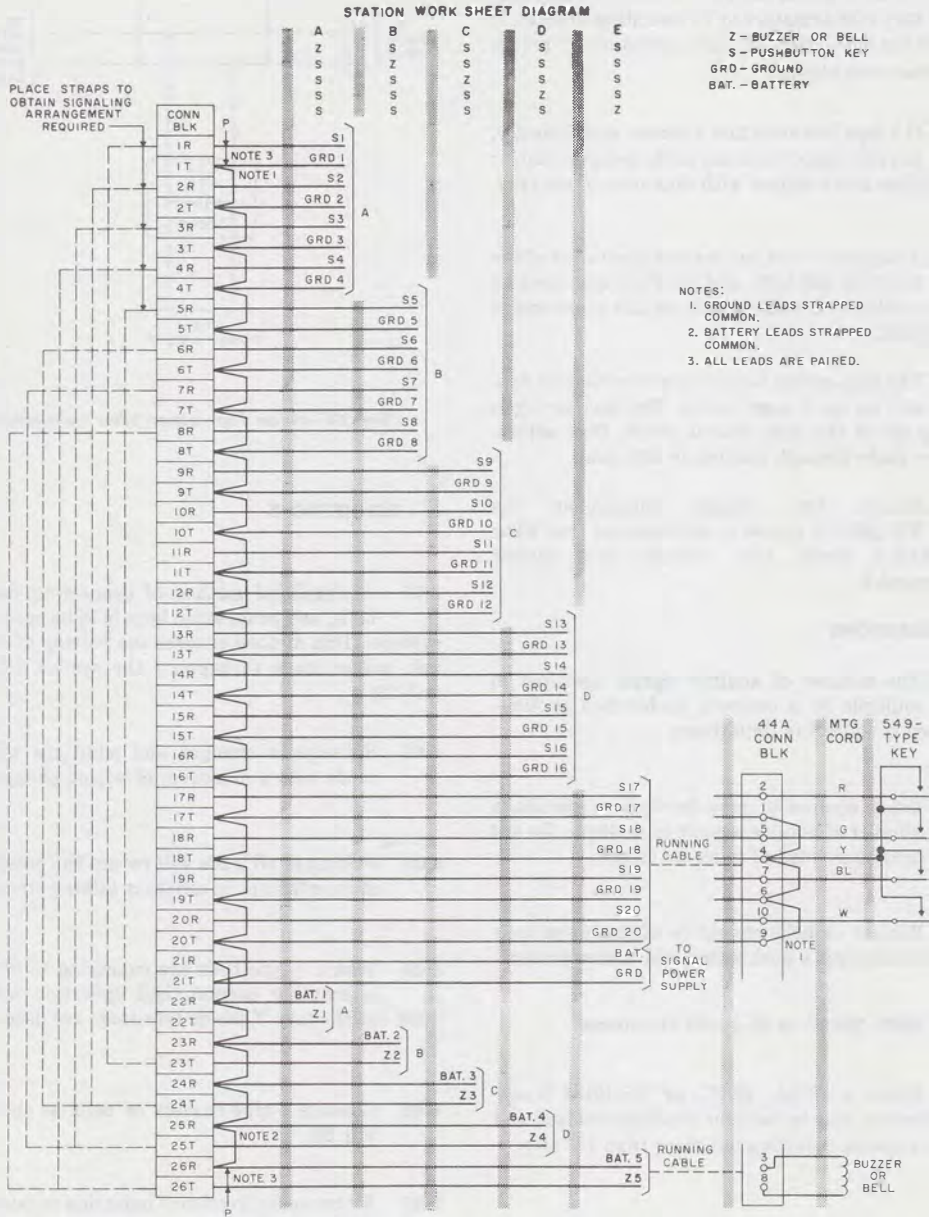

Fig. 21 --Large Pushbutton and Buzzer System
6.01 A simplified method of connecting buzzers, bells, and pushbutton keys is to be used on all systems. This method ensures the pairing of all key and buzzer leads throughout the system (Fig. 21 and 22).